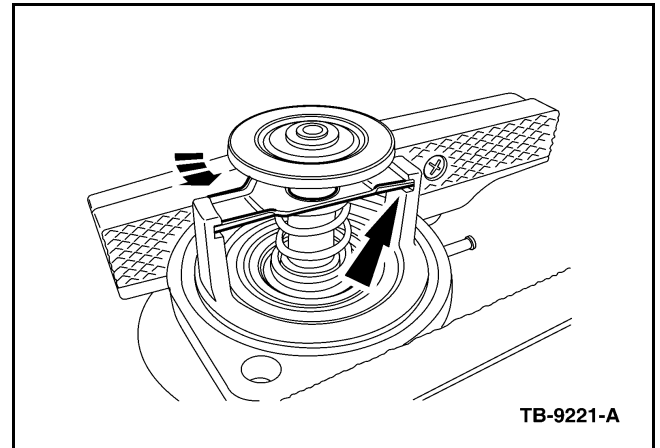

Figure 9 - Article 08-23-1
5. Position the thermostat housing assembly in the vise. Press down on the thermostat crossbar and rotate the thermostat to remove it from the thermostat housing assembly. (Figure 9)
54. Position the thermostat housing assembly in a suitable vise. Press down on the thermostat crossbar and rotate the thermostat to install it in the thermostat housing assembly. (Figure 9)